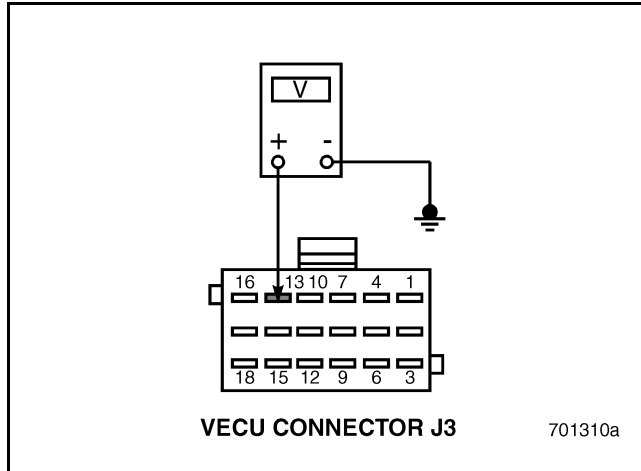

Figure 661
4. Measure the voltage between VECU connector J3 pin 13 and known good ground (see Figure 661).